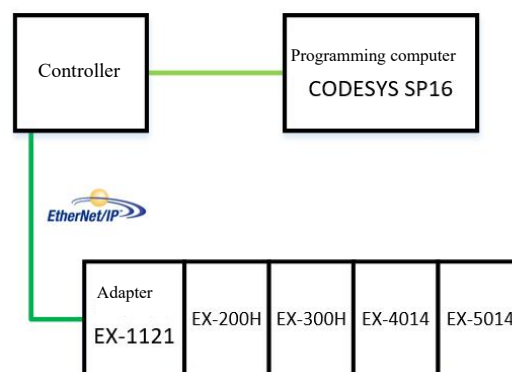

Figure 5-8-12 Communication connection diagram
1. Communication connection diagram, as shown in Figure 5-8-12